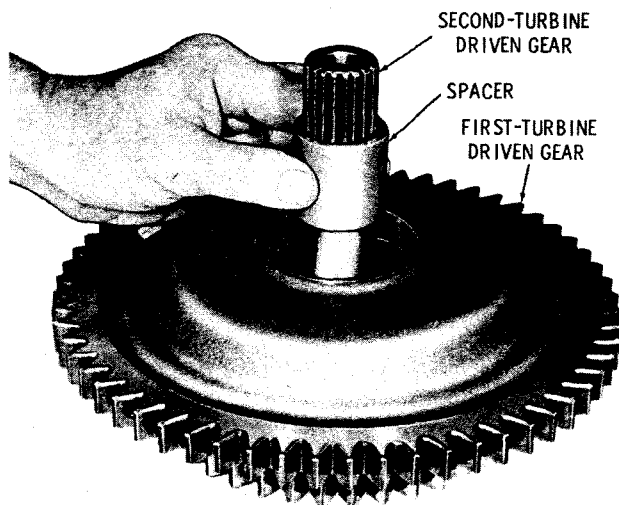

Fig. 6-15. Installing bearing spacer onto second-turbine driven gear
(9) Install the bearing spacer onto the shaft of the second-turbine driven gear (fig. 6-15).